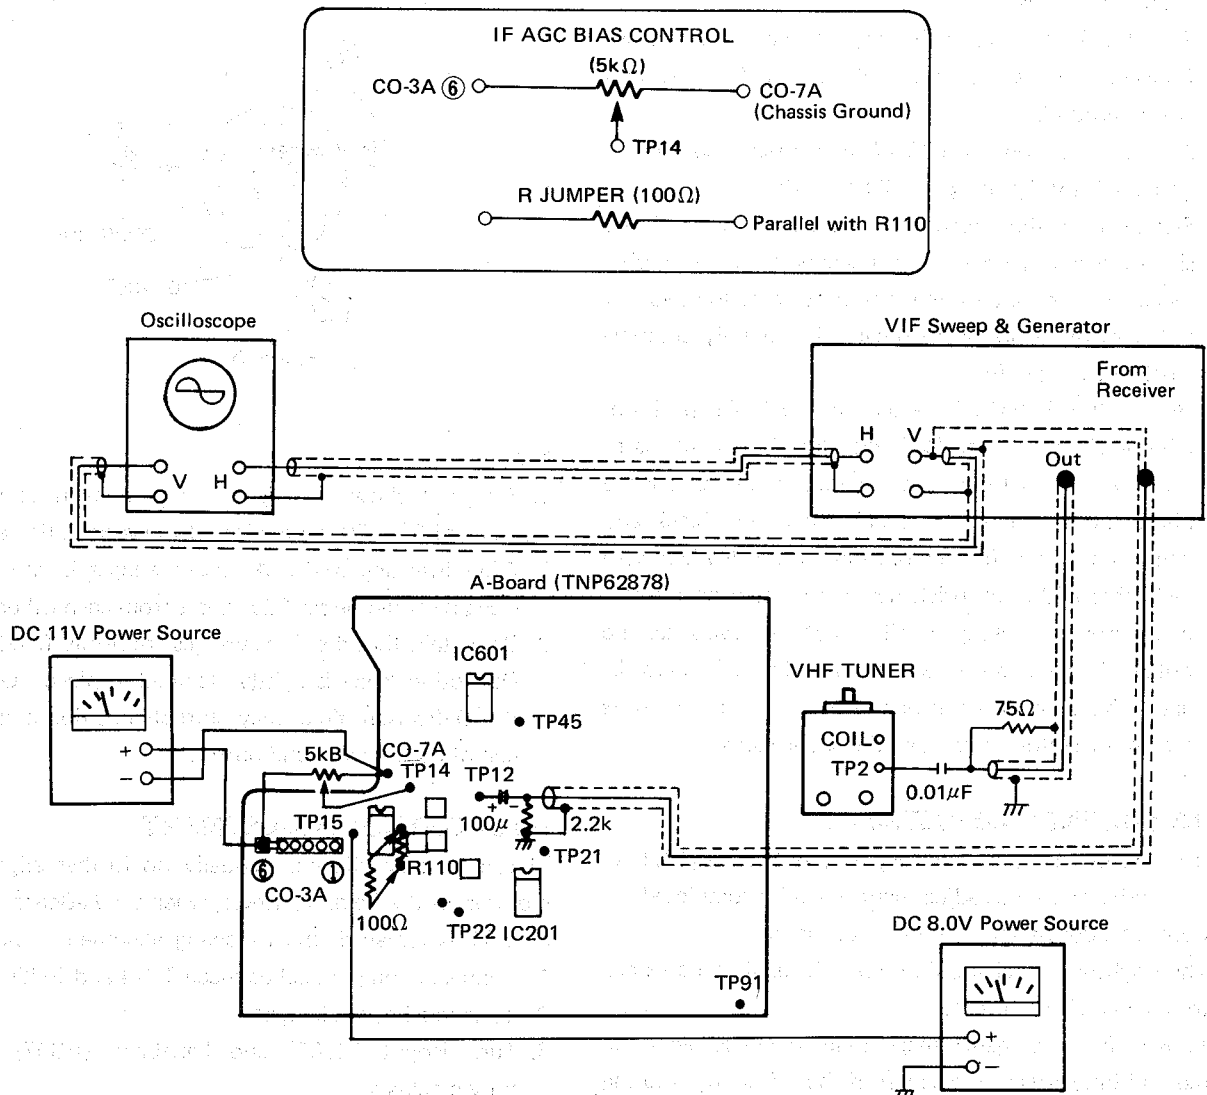

Figure 10
1. Set up sweep and marker generator, oscilloscope, and power supply as shown in figure 10.
3. Set up AGC Bias control ($5k\Omega$) as shown in figure 10.